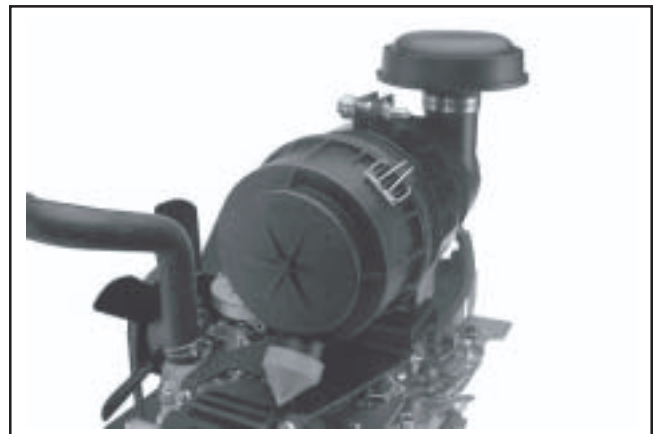

Figure 11-108. Dust Ejector Valve and Rain Cap Position.
4. If removed, install the rain cap and secure with the clamp. Check the position of the dust ejector, it should face downward. Adjust the end cap position as required. See Figure 11-108.